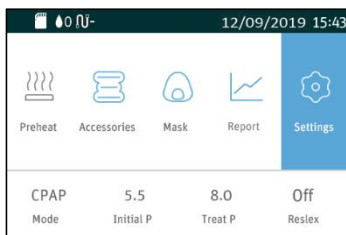

Fig. 15-1
(1) Insert the Cellular Module into the device and turn on the device. The device screen displays the Main Screen shown in Fig. 15-1.